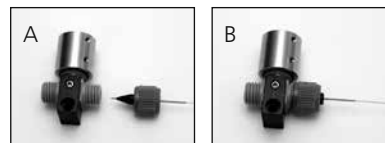

Figure 11A: Assembling the nut, ferrule, sleeve and PicoTip; 11B Securing the PicoTip assembly into the MicroTee
4. Thread the sleeved PicoTip through the fitting nut and a black MicroFerrule (Figure 11A)